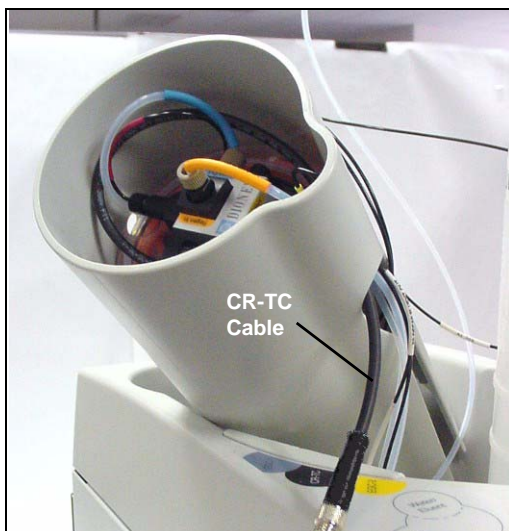

Figure 36. Installing the CR-TC
6. Feed the CR-TC cable through the slot on the side of the EGC holder (see Figure 36).